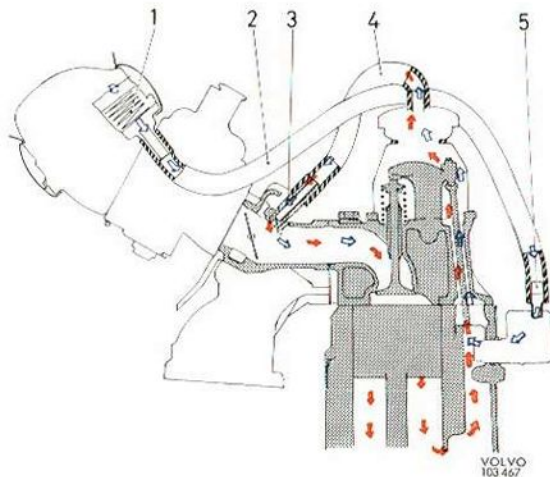

Fig. 2-23. Positive crankcase ventilation
Between the rocker arm casing and the intake manifold there is a hose (4, Fig. 2-23). It is connected to the intake manifold by means of a calibrated nipple (3). (This nipple should be cleaned every 40,000 km=24,000 miles.) Between the oil trap, which is connected to the crankcase, and the air cleaner there is a hose (2) connected for the fresh-air supply. At the connection to the oil trap there is a flame guard (5), which consists of a metal filter. The partial vacuum which arises in the intake manifold when the engine is running, brings about a partial vacuum in the rocker arm casing and crankcase through the hose (4). Fresh air is supplied to the crankcase through the air cleaner via the hose (2).